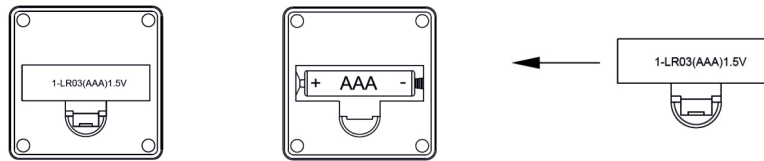

Fig. 1
- » Insert the AAA battery into the battery compartment, paying attention to the polarity according to Fig. 1.